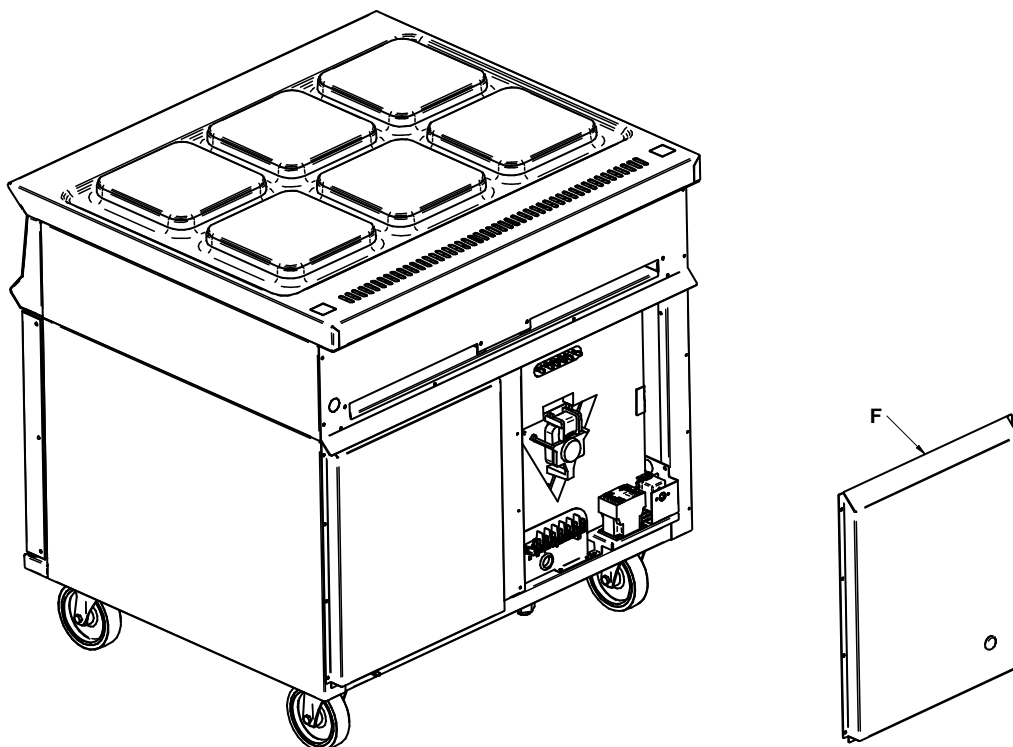

Fig 5
Working from the back of the appliance (Fig 5), remove the cable channel (E) and rear cover (F).
Working from the back of the appliance (Fig 5), remove the rear cover (F).